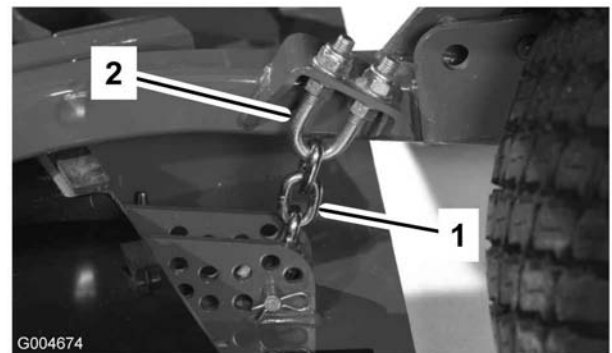

Figure 16
5. Remove the hairpin cotter and clevis pin securing the height-of-cut chains to the rear of the cutting unit (Figure 16).